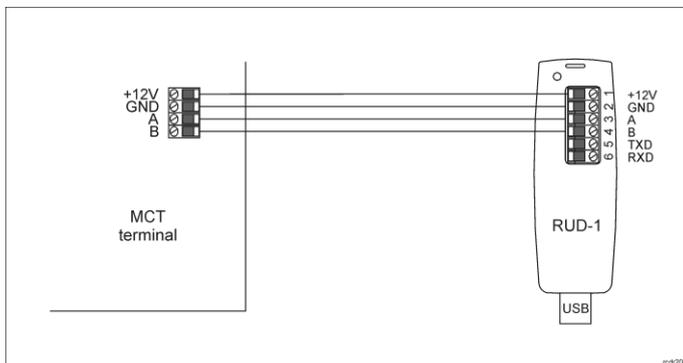

Fig. 1 Connection of MCT terminal to RUD-1 interface
2. Connect the device to RUD-1 interface (fig. 1) and connect the RUD-1 to computer's USB port. Orange LED SYSTEM will pulsate.
The update requires connection of reader to computer with RUD-1 interface (fig. 1) and starting RogerVDM software. The latest firmware file is available at www.roger.pl.
2. Connect the reader to RUD-1 interface (fig. 1) and connect the RUD-1 to computer's USB port. Orange LED SYSTEM will pulsate.